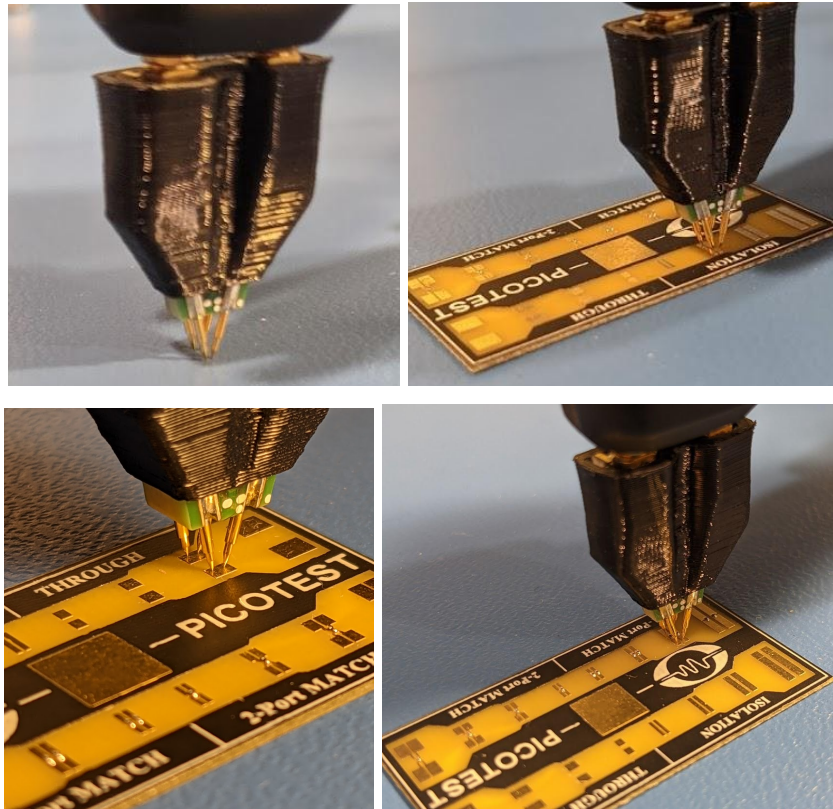
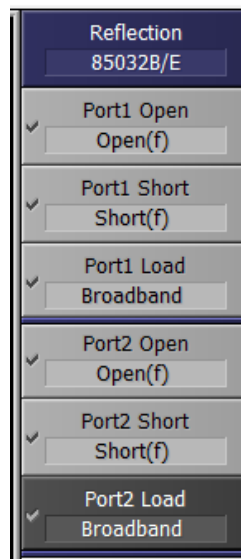

Fig. 18 - P2102A 2-port Calibration Open (top left), Short and Isolation (top right), through (bottom left) and Match/Load (bottom right).
Fig. 19 - Full 2-port Calibration - Reflection Calibration Steps Completed.
Prior to making any measurements, you should ensure calibration of the setup is performed by using the proper calibration method. The E5061B VNA has multiple calibration options shown in Table 4-1 of the E5061B user manual. Proper calibration is critical since it corrects for contact resistance, tip inductance, coupling, and thermocouple effects. For the highest accuracy measurements, Picotest's recommendation is to use the Full 2-Port Calibration which includes SHORT-OPEN-LOAD-THRU-ISOLATION calibration method with the E5061B. This ensures high accuracy with a 12-term error correction model by requiring 8 standard measurements shown by Figure 18. An example of why this is important is shown later in this document. In addition, to ensure consistent contact resistance, it is recommended that a probe holder be used during calibration and measurement. There are other calibration options available on the E5061B such as Enhanced Response Calibration which includes an OPEN-SHORT-LOAD-THRU calibration method to provide a 5-term error correction model, as well as a Response Calibration to provide a 2-term error correction model which includes either an OPEN-SHORT-LOAD or THRU-LOAD calibration.
Step 9: *Repeat for all 6 Reflection calibration steps until ✓ are reflected, as shown in Figure 19. Reference Figure 18 to complete all Full 2-port calibration steps.*
Step 20: *Repeat for **Response (Short)** and **Response (Thru)** calibration steps until ✓ are reflected. Reference Figure 18 to complete all Full 2-port calibration steps.*